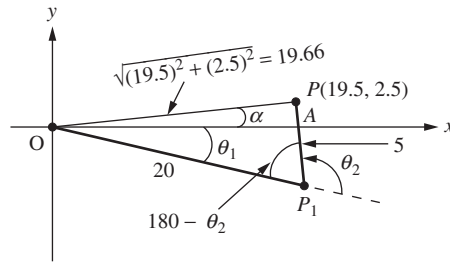

Figure 3.36 The triangle OP_1P to find the angles θ_1 and θ_2 .
- (b) The angle θ_2 can be found using the law of cosines on the triangle OP_1P shown in Fig. 3.36. The unknown angle $180^\circ - \theta_2$ and the three sides of the triangle OP_1P are shown in Fig. 3.36. Using the law of cosines gives
Since the leg is in the ankle-up configuration, $(180^\circ - \theta_2) = \cos^{-1}(0.1925) = 78.9^\circ$. Therefore, $\theta_2 = 101.1^\circ$. Also, from Fig. 3.36, the angle $\theta_1 + \alpha$ can be determined from the triangle OP_1P using either the law of cosines or the law of sines. Using the law of sines yields
The angle α can be found from the right triangle OAP shown in Fig. 3.36 as